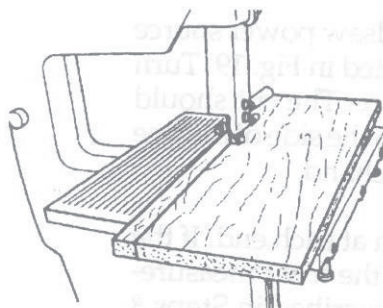

Fig. 13
10. Plug in and turn on the bandsaw power source. Cut freehand along the marked line about 4" to 5" into the board. See Fig. 13. Turn off and unplug the power source. Do NOT move the board. Clamp the board to the table, if desired, to prevent it from moving.